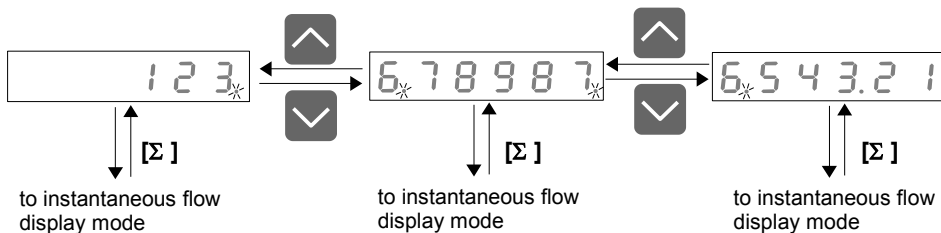

Figure 6.3. Switching between digits (screens) of total flow result.
- while medium digits are displayed both most left and most right decimal points are flashing (Figure 6.3). Most right decimal point signals that result has less significant digits – to see these digits press **[v]** button. Most left decimal point signals additional more significant digits. Press **[^]** button to see these digits.